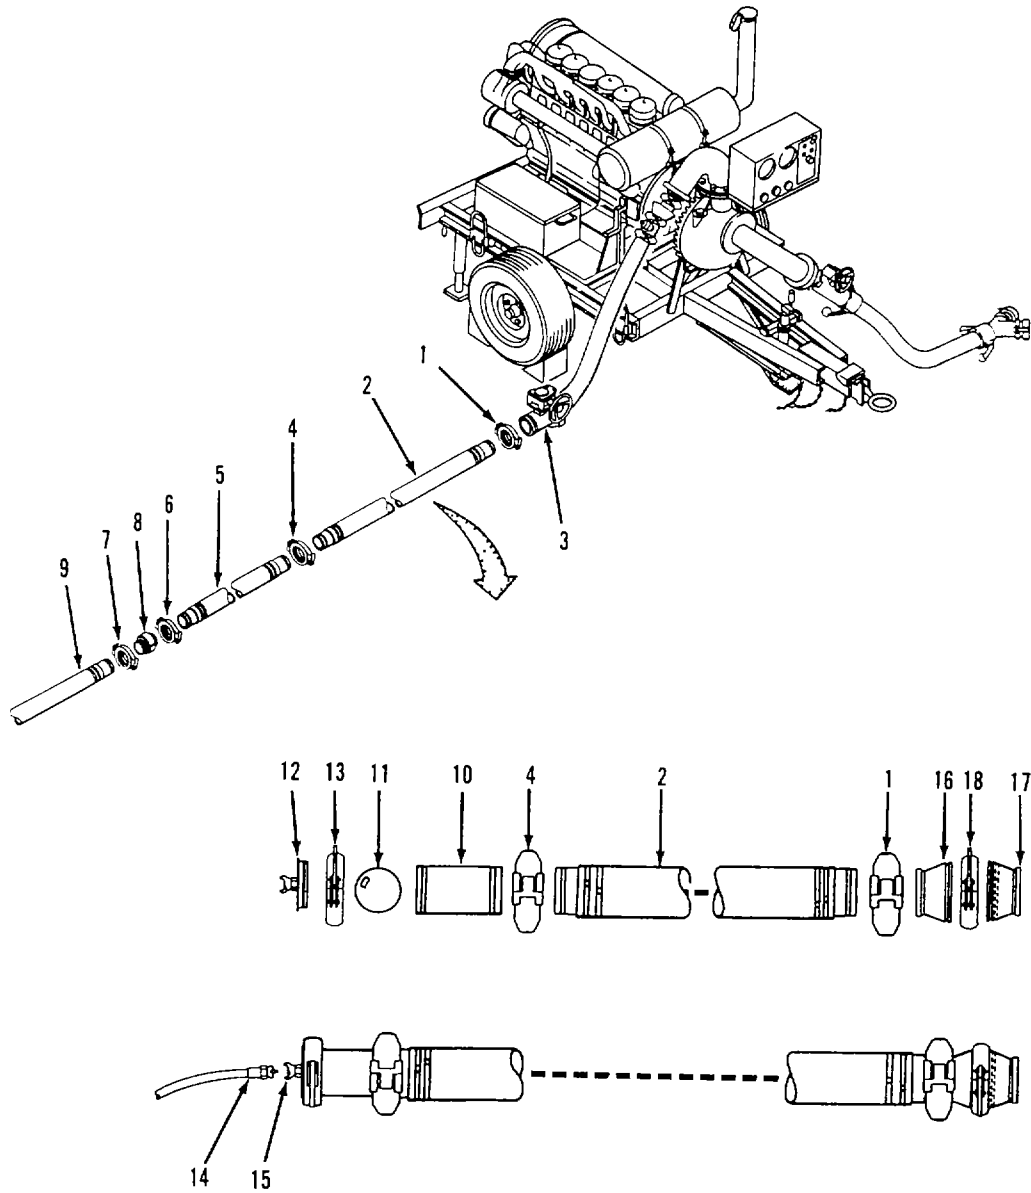

Figure 2-35. Hoseline Purging.
Purging. Refer to figure 2-35.
- (16) Connect cap (2) to hose (3) with coupling clamp (1).
- (17) Connect ejector (5) to ball inlet (6).
- (18) Connect air supply hose (4) to ejector (5).
- (19) Pressurize air supply hose (4) to ejector (5).
- (20) Shut off air supply to ejector (5) when hose (3) has collapsed.
- (21) Disconnect air supply hose (4) from ejector (5).
- (22) Disconnect ejector (5) from ball inlet (6).
- (23) Remove coupling clamp (1) and disconnect cap (2) from hose (3).
- (24) Remove coupling clamp (4, figure 2-35) and separate nipple (10) and attached parts from hose (2).
- (25) Repeat steps (3) through (23) for hose (5), except work from upline end of hose to downline end to prevent having to move air compressor.
- (26) Repeat steps (3) through (24) for all remaining downline hoses while removing coupling clamps (7) and swivels (8) from hoses (9) where required.
- (27) Pack evacuation kit components in storage chest.